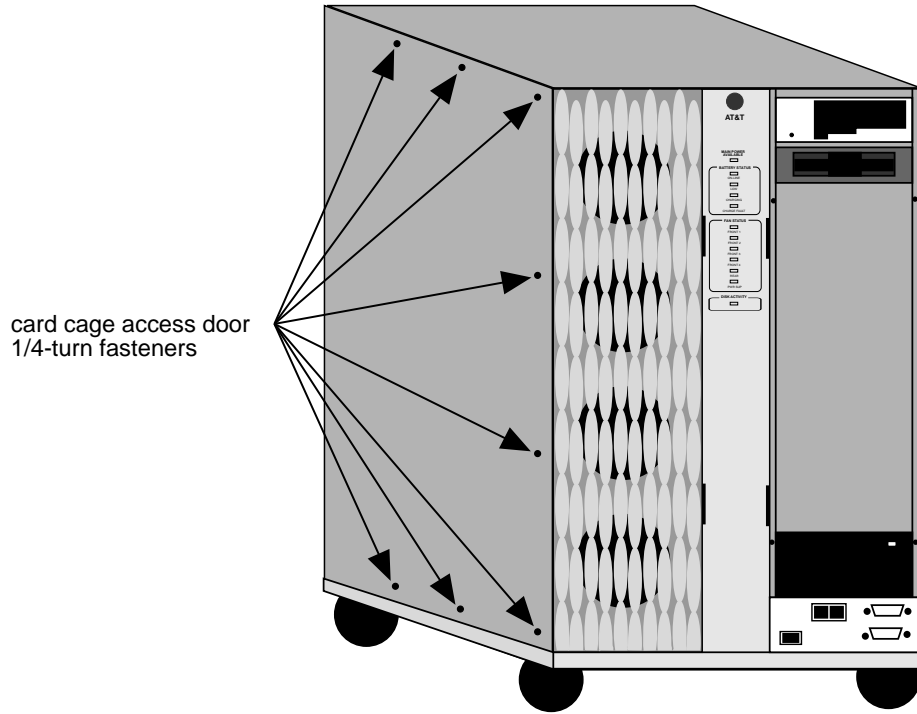

Figure A-7. Card Cage Access Door
- a. Loosen all eight of the 1/4-turn fasteners around the perimeter of the card cage access door on the left side of the unit. Open the door (Figure A-7).